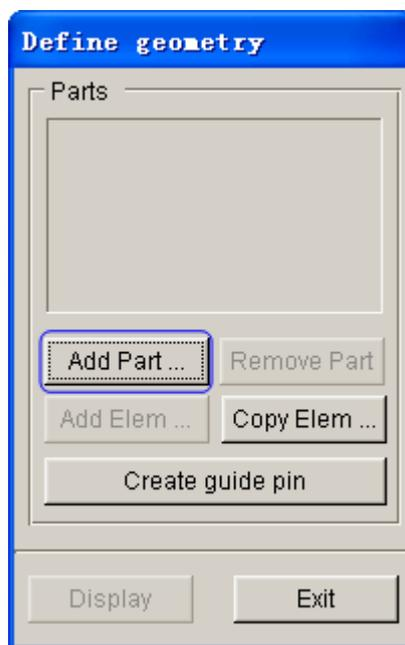

Figure 7.15 Define geometry dialog box
5. The DEFINE GEOMETRY dialog box illustrated in Figure 7.15 is displayed. Next, click the **Add Part...** button in the dialog box.
20. The DEFINE GEOMETRY dialog box illustrated in Figure 7.15 is displayed. Next, click the **Add Part...** button in the dialog box.